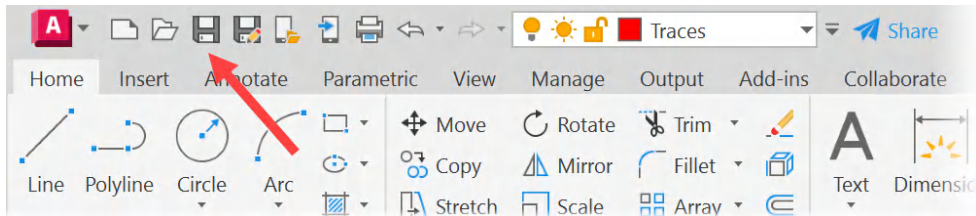

Figure 16.13: The Save icon on the QAT
19. You can now click on **Save** on the QAT at the top-left of the AutoCAD screen, as shown in *Figure 16.13*. You can save normally like this, as you are working on a drawing that is based in the cloud, in the AutoCAD Web & Mobile folder. It is the same as saving a drawing file in a local location, such as on a hard drive or server.